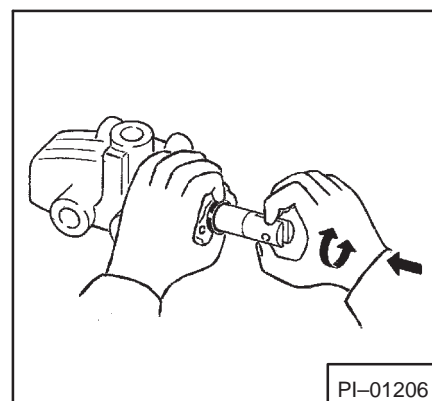

Fig. 4-26 Install Front Seal
10. Install a new front seal (Fig. 4-26).
11. Push seal into housing and spool into place (Fig 4-26).